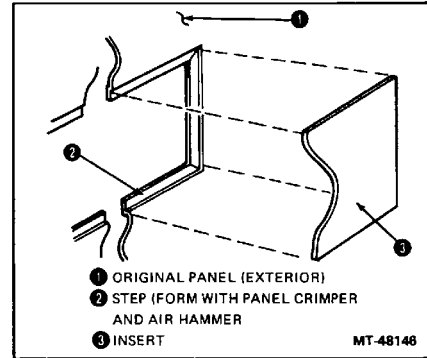

Figure 50. - Forming Insert Step in Original Panel
- Using an air hammer and a panel crimper, form a step in the original panel so that the new sheet metal or aluminum insert will set flush with the original panel (Figure 50).